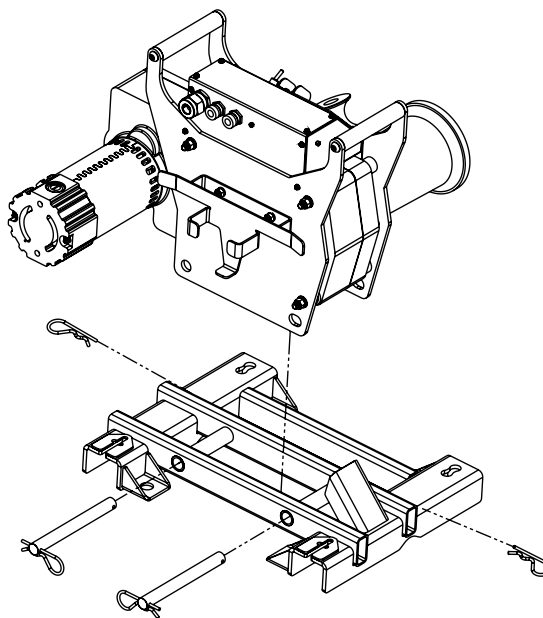

Figure 20b
9. Install model #1450 puller onto the floor mount by lowering the puller over the floor mount and inserting the puller mount pins (see Figure 20b). Secure the puller mount pins with spring clips. NOTE: The puller **MUST** be mounted onto the floor mount with the capstan on the same side as the mounting chain handle holes (see Figure 19).